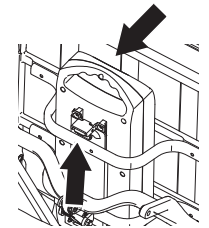

Fig.13
8.4.5 Battery Removal(**Fig.13**)